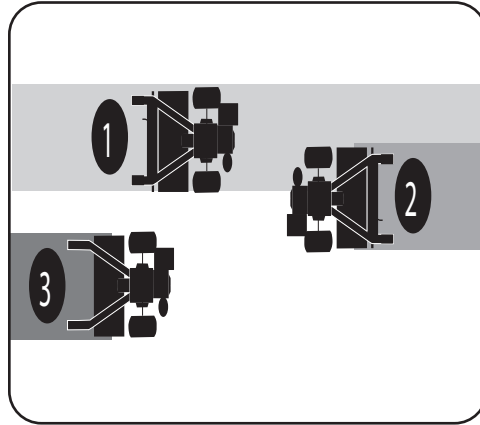

Figure 4-14
- If the garden size will not permit lengthwise and then crosswise tilling, then overlap the first passes by 1/2 a tiller width, followed by successive passes at 1/4 width. See Figure 4-14.